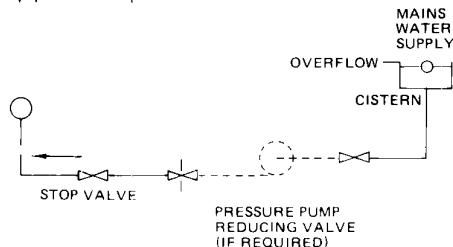

FIG. 7 FULLY PUMPED SEALED SYSTEM
- ii) where access to a make-up vessel would be difficult by using the mains top up method or a remote automatic pressurisation and make-up unit as illustrated in FIG. 7 METHODS 1 and 2.
The system shall be fitted with a filling point at low level which incorporates a stop valve to BS1010 and a double check valve (approved by the National Water Council) to be fitted in this order from the system mains, Refer to FIG. 7. Method 1.